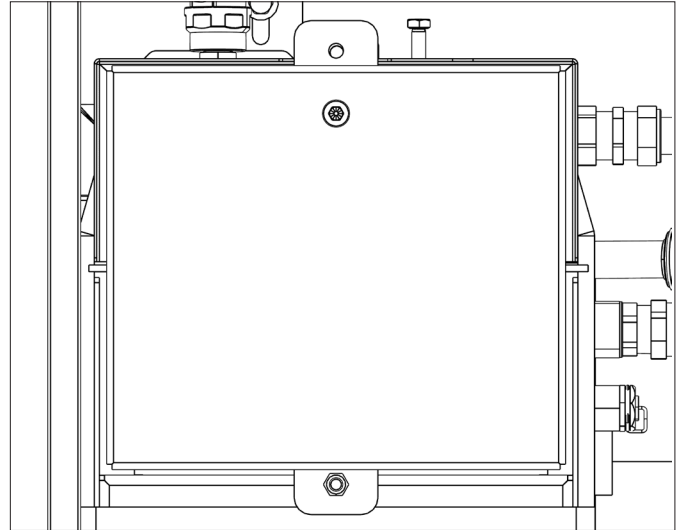

Figure 4-4: Removing clean-out door
17. Using 13mm spanner, unscrew the two clean-out door retaining nuts and remove door from front of boiler shell. (See Figure 4-4).